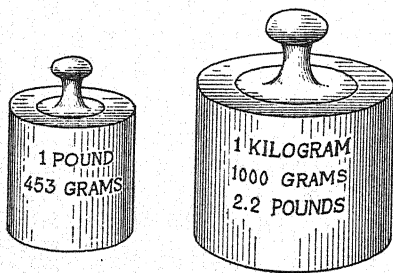

FIG. 7. — The kilogram is more than twice as heavy as the pound.
4. One kilogram equals a little more than 2.2 lb. (See Fig. 7.)